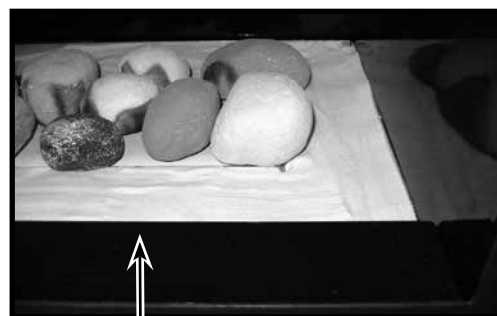

Figure 40: Front panel location.
5. Place the front panel on the front lip of the firebox, wide flange facing the front (Figure 40) (Proceed to step #7 if you are installing a TCWS.54NG03.C2 Black Diamond burner with this unit.)